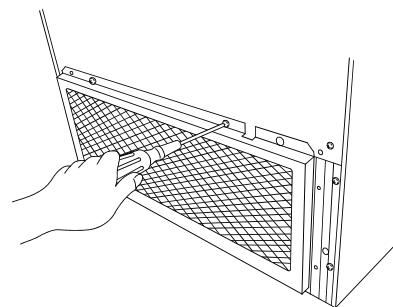

Fig. 16
4. Remove the wire grille on the back bottom of the freezer. See Fig. 16